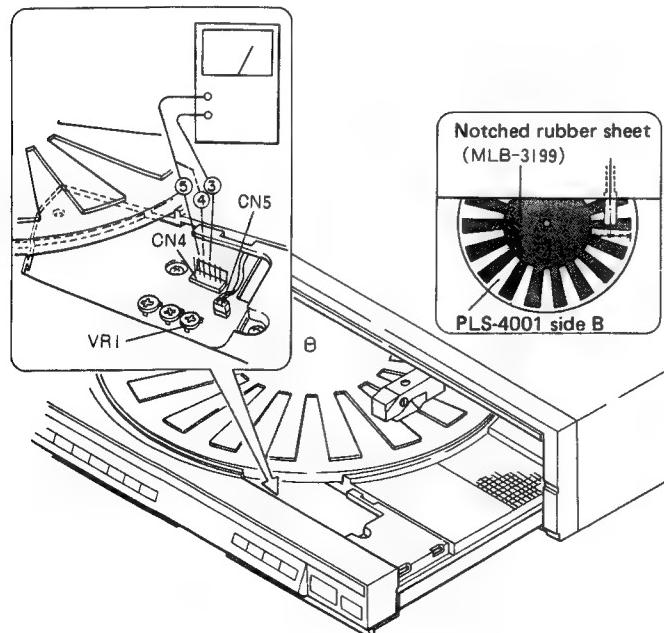

Fig. 12-5 Band Sensor Gain Adjustment
3. Turn on the power and set the speed to 45 rpm. Using the locate switch ($<$), move the tonearm over the center of the slits in the notched rubber sheet as shown in figure 12-5.